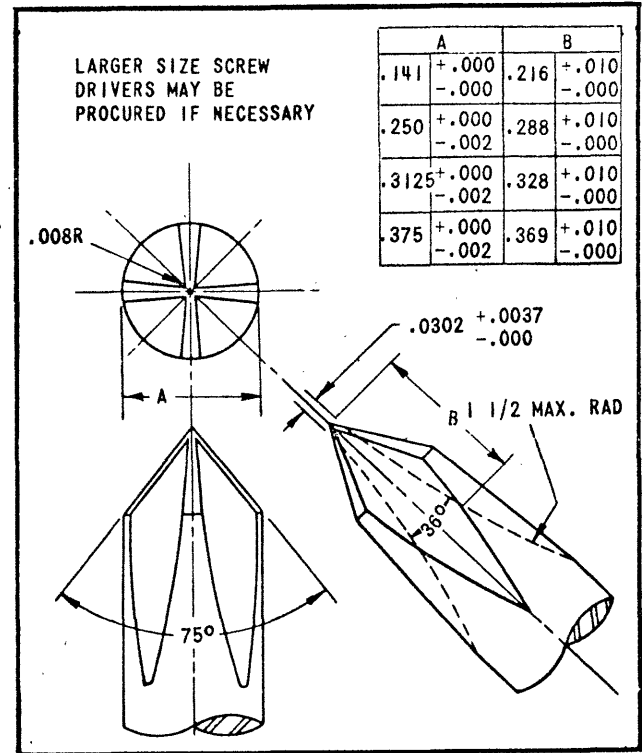

Figure 36 - Reed and Prince Screw Driver Head Dimensions
c. All countersunk, recessed head screws originally used on this airplane are of the Reed and Prince type. The use of any screwdriver other than the Reed and Prince type will result in mutilations of the screw head and are therefore not recommended. (See figure 36 for details of the Reed and Prince screwdriver head.)